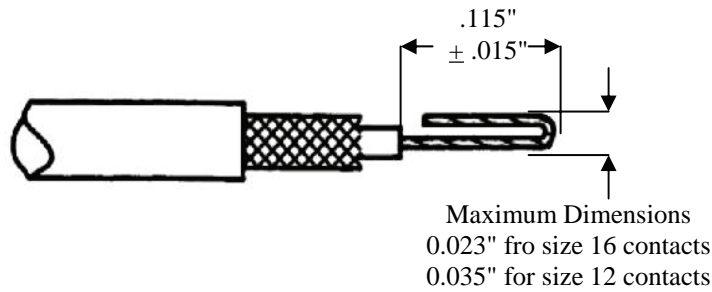

Figure 9. Small Diameter Center Conductor Fold-Back
g. If the center-conductor strip length is 0.215 inch as shown in examples B and D of Figure 6, fold the center conductor back on it self as shown in Figure 9.